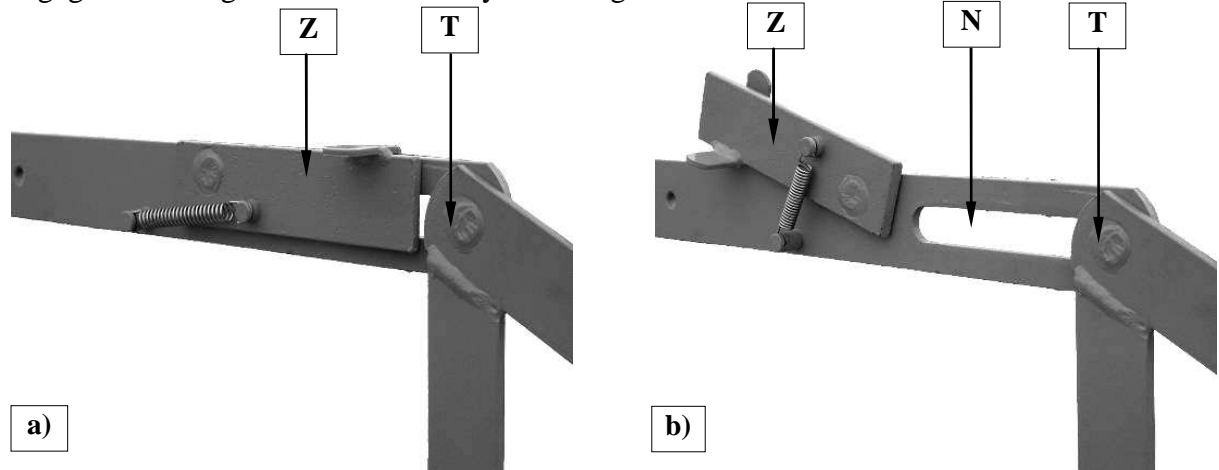

Fig. 22. Positions of locking pawl “Z”: a) transport, b) working
- ❑ set pawl Z (Fig. 22) in transport position.